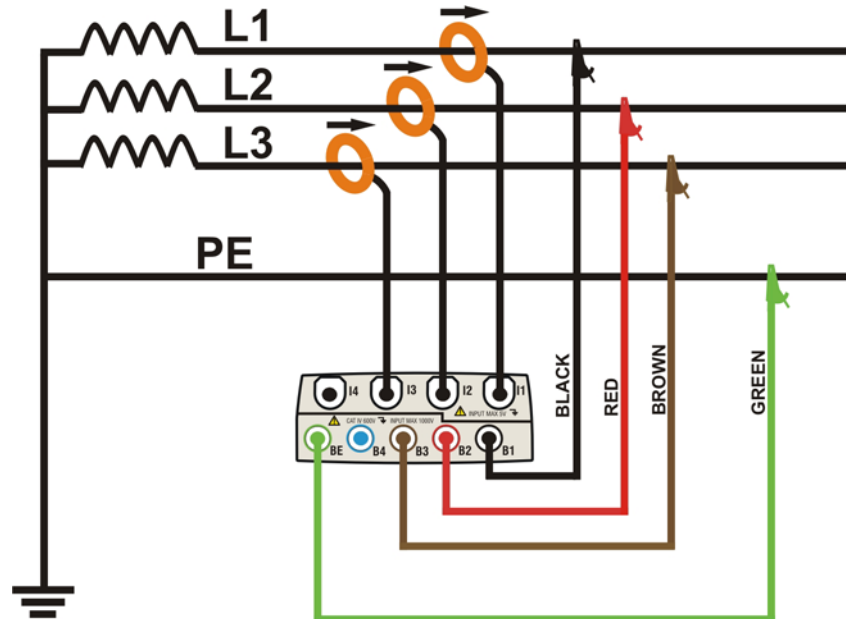

Fig. 188: Meter connection in a three phase 3-wire ARON system
2. Connect voltage test leads on Phases L1, L2, L3, and Ground cables considering the colours as shown in Fig. 188. **Verify the result “123” at display relative to a correct phase sequence indication** (see § 5.2.1) and perform the corrections if necessary.
3. Connect the transducer current clamps on Phase L1, L2, L3 cables as shown in Fig. 188 respecting the clamp's arrow direction indicating the current standard sequence from generator to load. **On Real Time Values' section screens (selecting a 3 wire system preliminarily) always verify the positive value of Active Power and the power factor relative to load which should be normally inductive** before starting a recording. Reverse the clamp by 180 degrees on cables in case of negative readings.